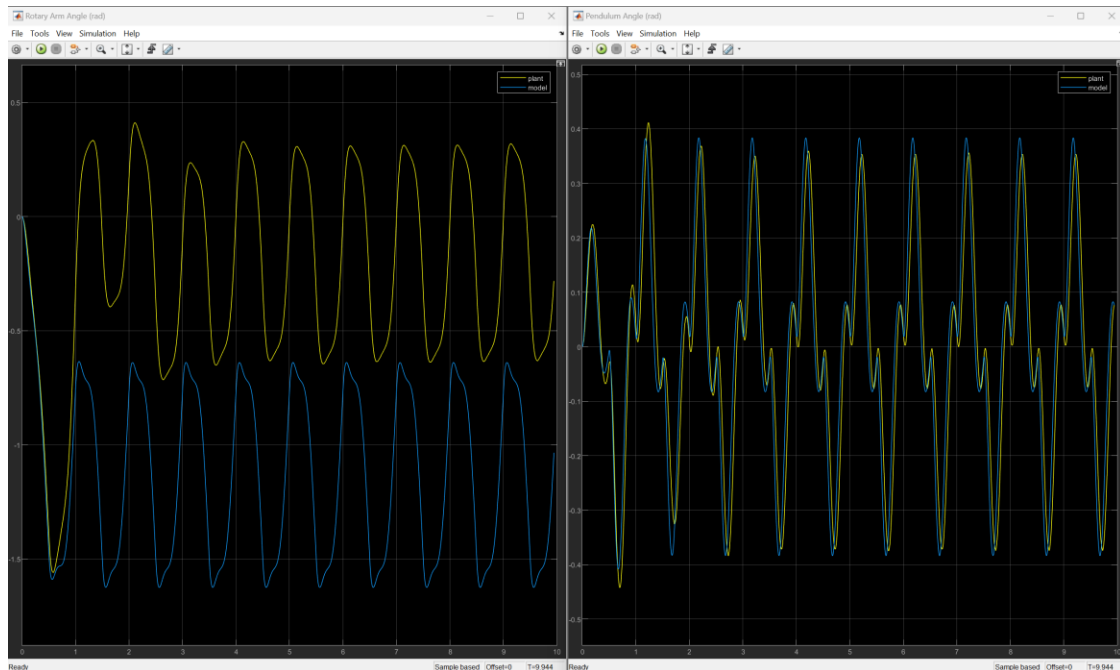

Figure 2: Sample response of the measured vs. modeled pendulum system.
7. Capture a screenshot of the Base Encoder Angle (rad) scope and the Pendulum Angle (rad) scope. The response should look similar to Figure 2 below.